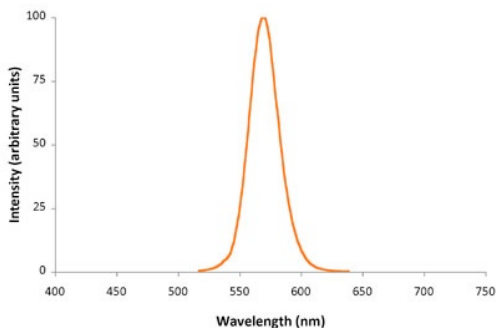
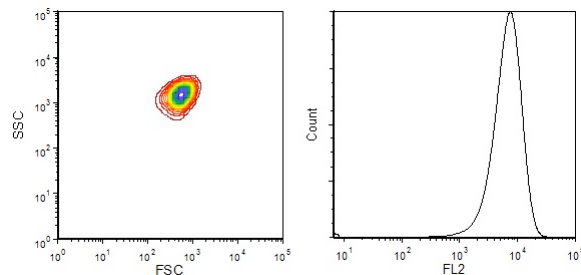

Figure 1. Emission spectrum of Zepto™ Ultra Yellow Carboxyl Microspheres.
Figure 2. FSC-SSC plot and fluorescence histogram in the PE channel of Zepto™ Ultra Yellow Carboxyl Microspheres on a flow cytometer.
The emission spectrum is illustrated in Figure 1. They are a suitable for a wide range of fluorescent assays such as flow cytometry-based assays. Their Forward Scatter (FSC) vs. Side Scatter (SSC) plot and fluorescence histogram in the PE channel (405nm, 488nm excitation; 575nm emission) on a typical flow cytometer are illustrated in Figure 2.
1. Gate on the single population of microspheres on FSC vs. SSC plot (refer to Figure 2)